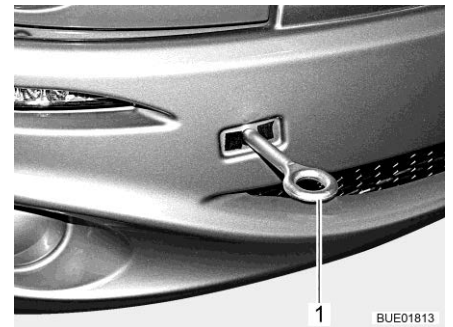

Fig. 48 Towing eye, mounted
- Mount the towing eye (Fig. 48,1) in accordance with the instructions in the operating manual of the base vehicle.